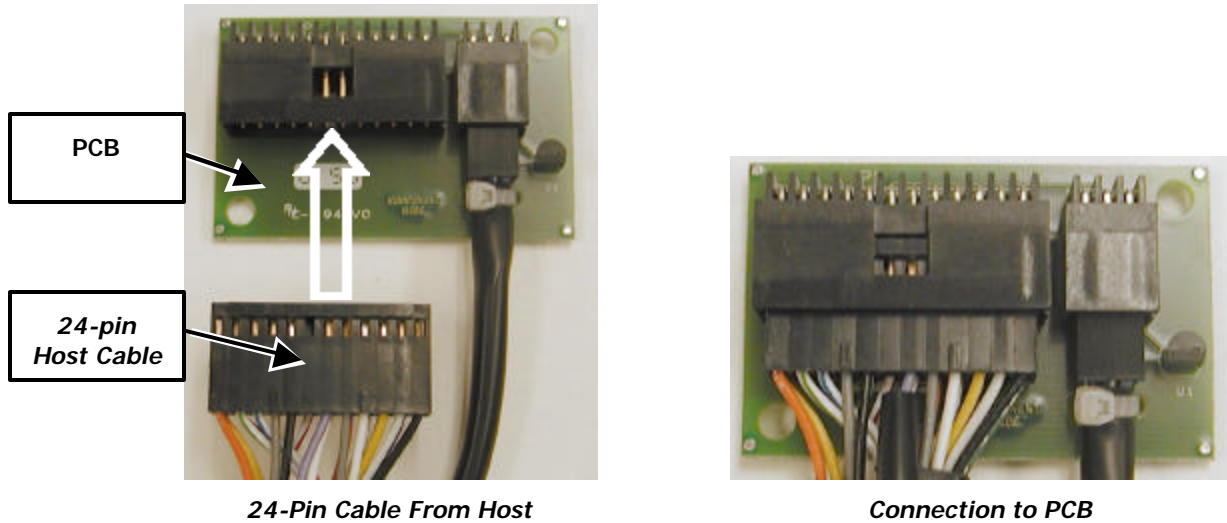

Figure 10. 24-Pin Connector Hookup to PCB
5. Remove PCB from box (**Figure 10**).
6. Connect 24-pin cable from Host controller to 24-pin connector on PCB (**Figure 10**). For 24-pin connector pin assignments, refer to **Table 4**.